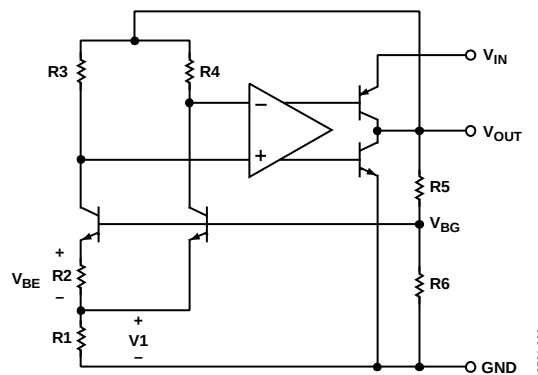

Figure 9. Simplified Schematic
The AD1582/AD1583/AD1584/AD1585 use the band gap concept to produce stable, low temperature coefficient voltage references suitable for high accuracy data acquisition components and systems. These parts of precision references use the underlying temperature characteristics of a silicon transistor's base emitter voltage in the forward-biased operating region. Under this condition, all such transistors have a $-2\text{ mV}/^{\circ}\text{C}$ temperature coefficient (TC) and a V_{BE} that, when extrapolated to absolute zero, 0 K (with collector current proportional to absolute temperature), approximates the silicon band gap voltage. By summing a voltage that has an equal and opposite temperature coefficient of $2\text{ mV}/^{\circ}\text{C}$ with the V_{BE} of a forward-biased transistor, an almost 0 TC reference can be developed. In the AD1582/AD1583/AD1584/AD1585 simplified circuit diagram shown in Figure 9, such a compensating voltage, V_1 , is derived by driving two transistors at different current densities and amplifying the resultant V_{BE} difference (ΔV_{BE} , which has a positive TC). The sum of V_{BE} and V_1 (V_{BG}) is then buffered and amplified to produce stable reference voltage outputs of 2.5 V, 3 V, 4.096 V, and 5 V.